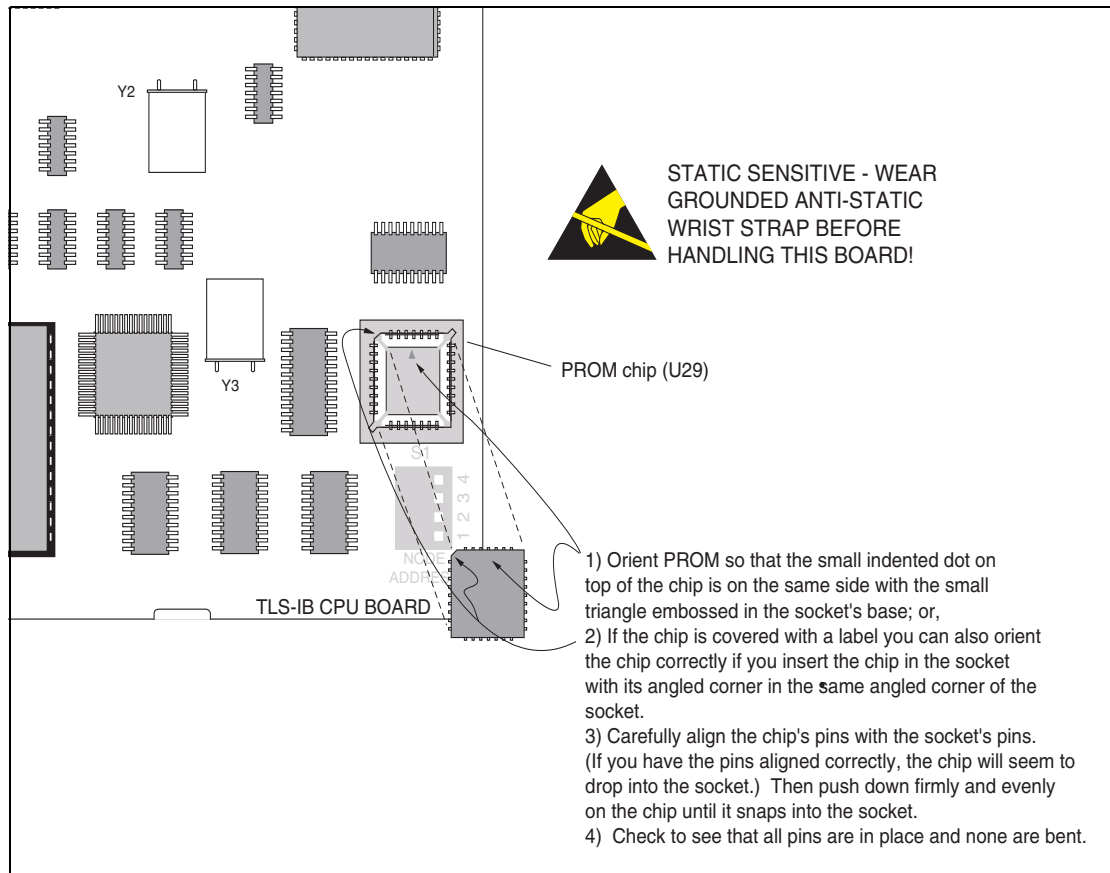

Figure 32. Replacing PROM Chip
8. Replace the PROM chip following instructions in Figure 32.